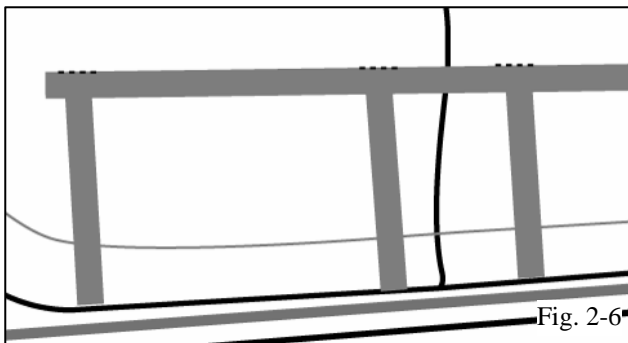

Fig. 2-6
- ⚠ (e) Trim any length of vertical tape protruding beyond the tape installed in step (d) as shown in (Fig 2-6).